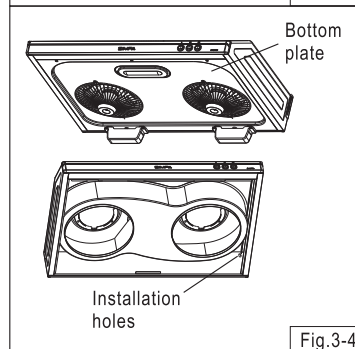

Fig.3-4
- Remove 2 hangers on both sides. Detach the bottom plate. Install the range hood to sleeve anchors through the holes on the back sides of range hood. Tighten the nut of sleeve anchor. (Fig.3-4)